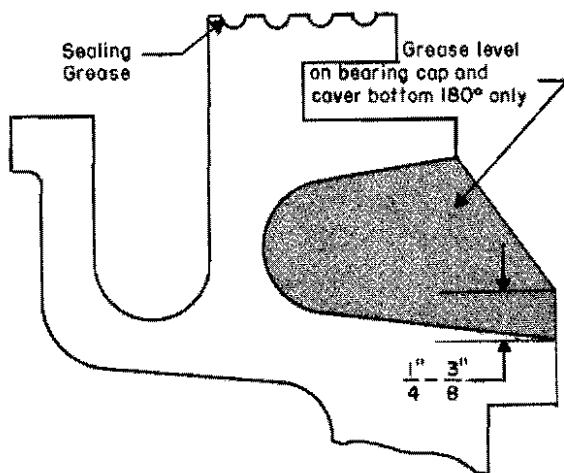
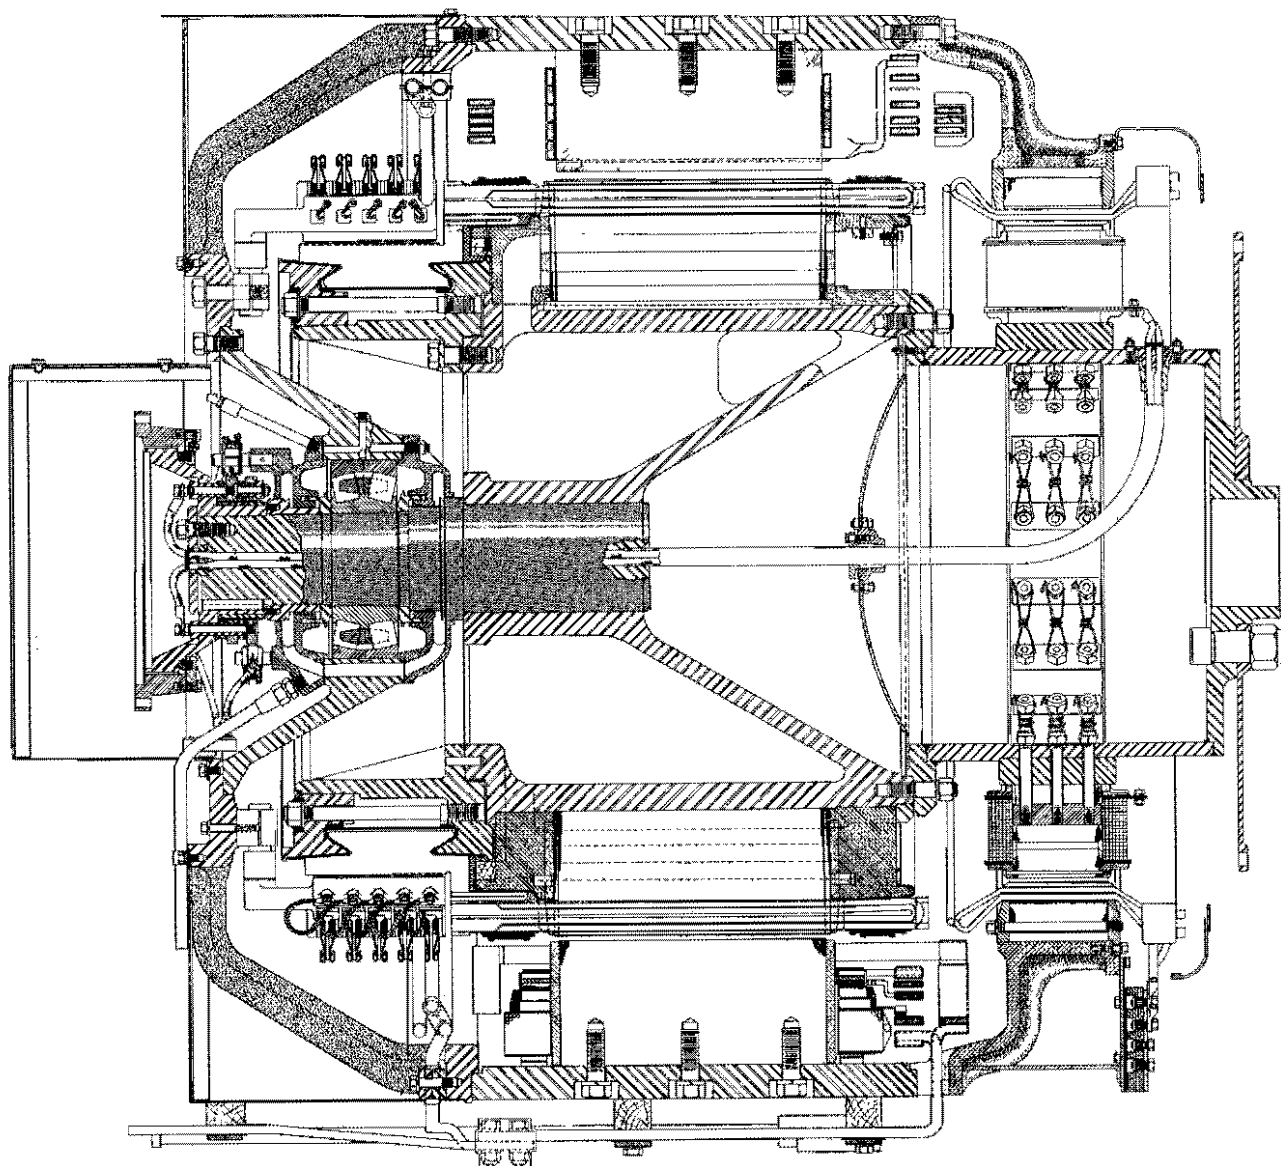

Fig. 15 - Application Of Grease To Cap And Bearing
Fig. 16 - Cross-Section View Of D-12 Generator
2. Apply sealing grease to grooves in bearing cap and cover. N.L.G.L #3 grease is approved. See Fig. 15.
4. Fill the bearing cap pocket with approved grease (Lubrico M-6 or Star-fak #2) around the lower 180° to the level indicated by Fig. 15, and place the cap in position on the shaft as shown in bearing assembly drawing, Fig. 16.
5. Heat the inner oil thrower in an oil bath or electric oven for half an hour at 248°F. or 120°C. If an induction heater is used, only heat up to 248°F. or 120°C. If an oil bath is used for heating, remove the oil from the oil thrower with clean bound edge cloths prior to shrinking to the shaft. When using an induction heater, pyrometer readings (with current off) should be taken periodically. After heating as per instructions, shrink the oil thrower to the shaft. See Fig. 16 for proper position on the shaft. Let the oil thrower cool to room temperature.
12. Fill the outer bearing cover pocket with grease around the lower 180° to the level indicated by Fig. 15. Fill the lubricating tube with grease and apply to the cover. Apply a new gasket to the housing. Then bolt the bearing cover to the end housing lining up the cover drain hole with the hous-
13. Heat armature shaft sleeve on induction (pinion) heater to 260°F., or 127°C., and shrink to shaft. See Fig. 16 for position on shaft.
15. Place coupling gear assembly on induction heater to expand. Heat to 248°F., or 120°C., taking pyrometer readings off slip ring. Clean key way and assembly key to shaft. Before shrinking gear coupling assembly to shaft, apply gear seal ring over collector rings; use new felt seal and gasket with ring. Shrink coupling gear assembly to shaft, for position. (See Fig. 16).